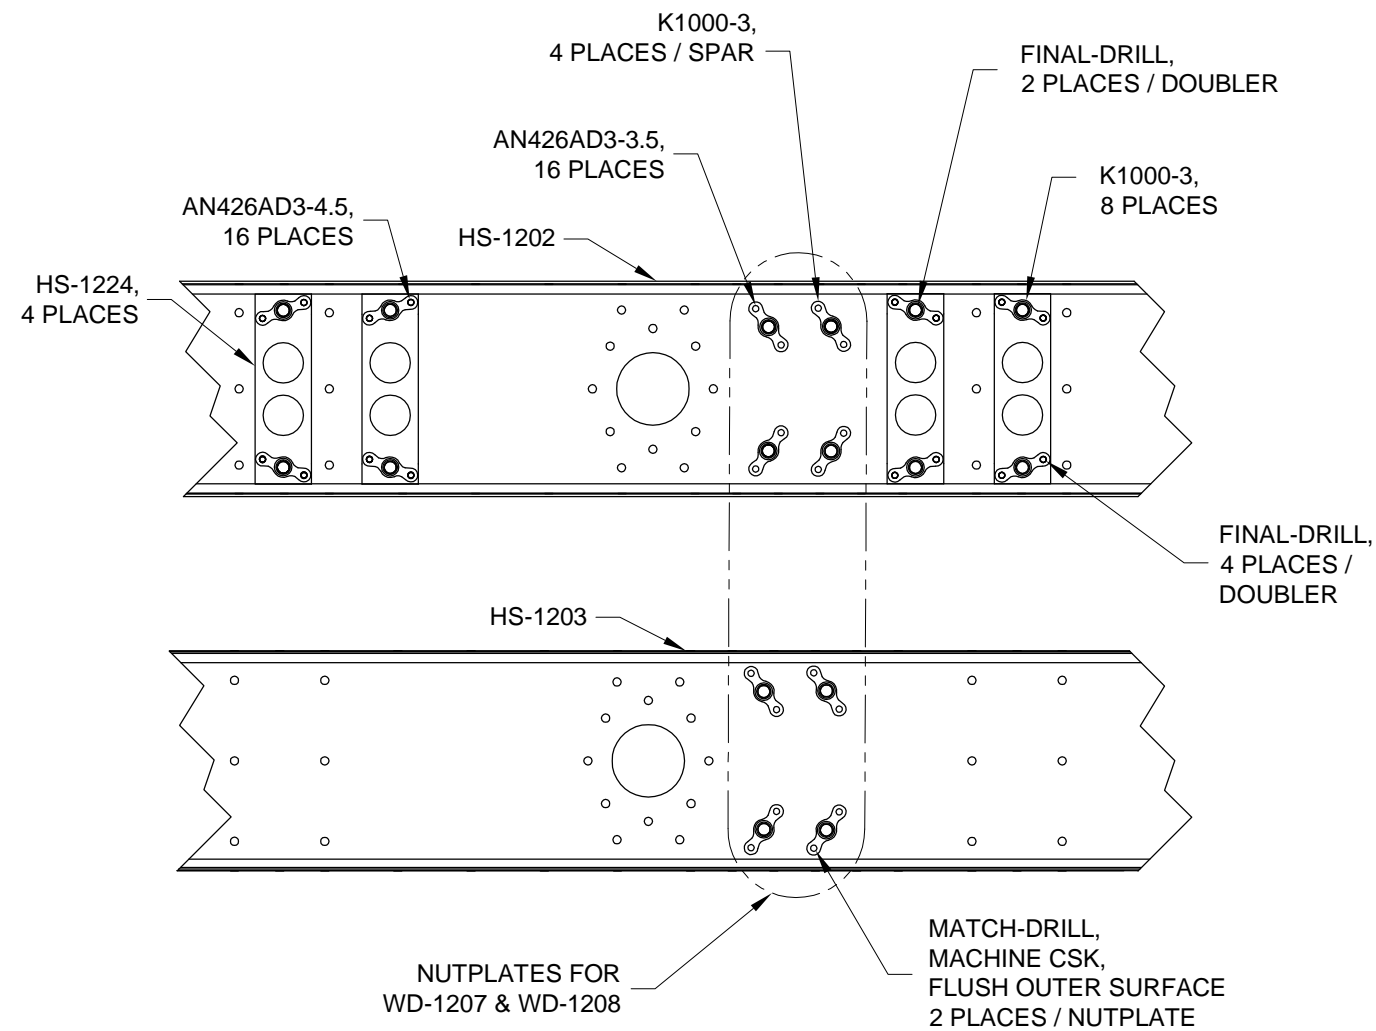

FIGURE 1:
Step 3: Bolt one of the called out nutplates through one of the #12 holes in the HS-1202 Fwd or HS-1203 Aft Spar for the WD-1207 Upper and WD-1208 Lower Horn. Using the nutplate as a guide, match-drill #40 the first nutplate attach rivet hole as called out in Figure 1. Cleco the first #40 hole, then match-drill the other attach rivet hole. Repeat this step for all of the nutplates that are common to the upper and lower horns in the fwd and aft spar.
Step 4: Machine countersink the nutplate attach rivet holes flush on the outer surface of the HS-1202 Fwd and HS-1203 Aft Spar per call-out in Figure 1.
Step 5: Rivet the HS-1224 Doublers, and the called out nutplates to the inner surface of the HS-1202 Fwd Spar web using rivets called out in Figure 1.
Step 6: Rivet the nutplates for the WD-1207 Upper and WD-1208 Lower Horn to the HS-1202 Fwd and HS-1203 Aft Spars using the rivets called out in Figure 1.